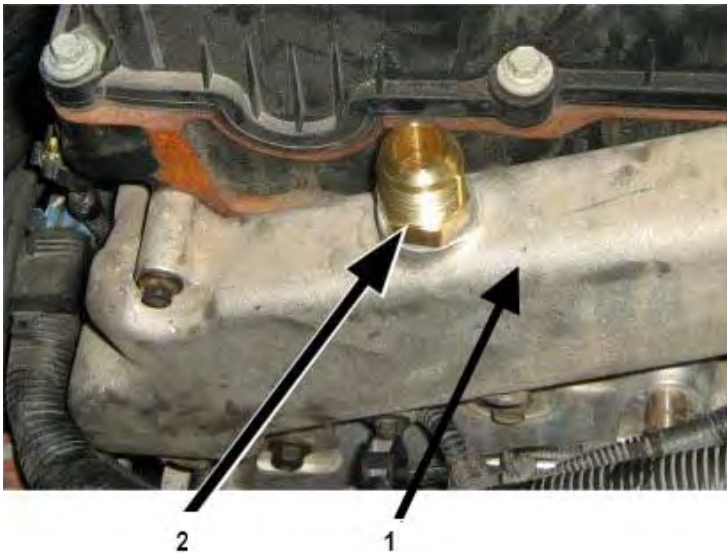

Figure 17 EGR Crossover Pipe (Rear of Engine)
1. From inside cab, locate EGR crossover pipe (coolant manifold) (See Figure 17, page 14) at the rear of the engine.